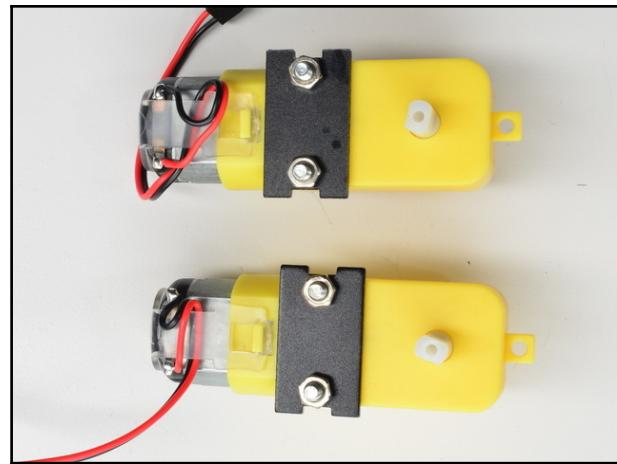

Figure 2.3: Screwing the red panels onto the motors. Image courtesy of Adafruit Industries (<https://www.adafruit.com>); Image credits—John O'Brien-Carelli
1. Screw the two black panels onto the motors. The metal panels go on the side with the red and black wires coming out. Use the hex nuts to secure the screws (*Figure 2.3*):